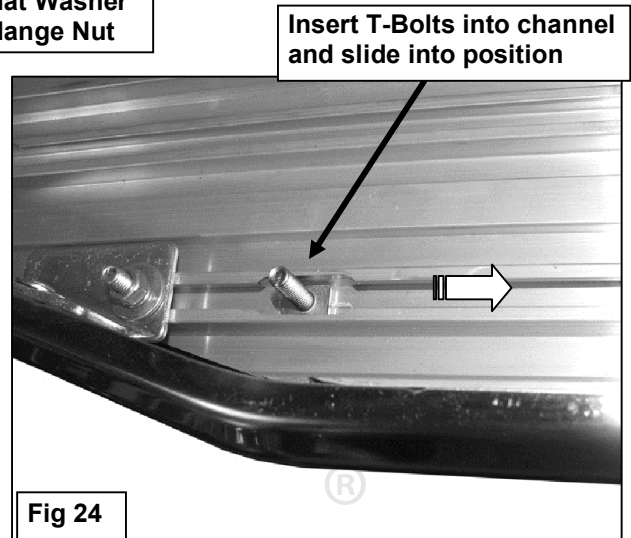

Fig 24
11. Carefully unwrap the Running Boards and select the driver side. Insert (6) 6mm T-Bolts into the slots in the end of the channels, (3 T-Bolts per channel), on the bottom of the Running Board, (**Figure 24**). Hold the Running Board up in approximate position and slide the T-Bolts down to line up with the Mounting Brackets. Tilt the Board up at a slight angle and push back against the vehicle until the T-Bolts fit into the slots on the Brackets. Attach the Board to the Brackets with (6) 6mm Flat Washers, (6) 6mm Lock Washers and (6) 6mm Hex Nuts, (**Figure 25**). Do not tighten hardware at this time. **NOTE:** the Running Board is designed to fit close to the vehicle. It may be necessary to temporarily loosen the Bracket hardware and tilt the Brackets downward to insert the Running Board.